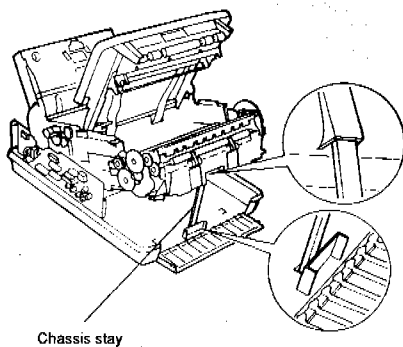

Fig. 4-4-8 Basic disassembly procedure 2
2. Fig. 4-4-8 shows the result of basic disassembly procedure 2.